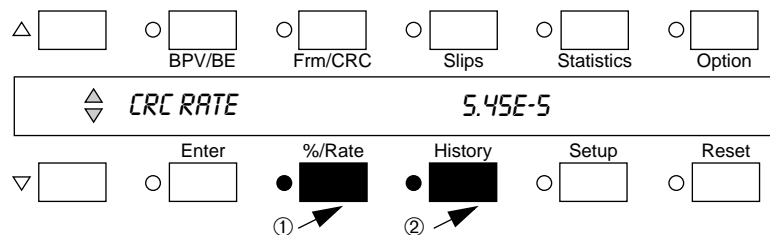

Figure 5-3 Error Monitor area of the front panel showing information modifier keys
The %/Rate key (① in Figure 5-3) changes
Press the History (Ⓜ in Figure 5-3) key to view the error counters for any of the blocks in the last 24 hours. The History LED begins to blink and the Enter LED illuminates. The display contains a block number along with its starting time. For example: *VIEW BLK#: 1 13:45:00*